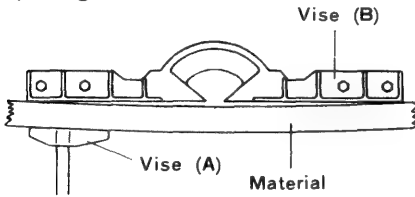
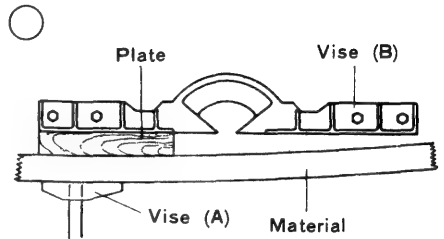

Fig. 16
Fig. 17
To cut an uneven workpiece such as that shown in Fig. 16, apply a plate between vise (B) and the workpiece as shown in Fig. 17.